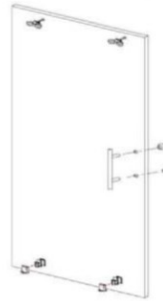

Fig 5
9. Fasten the ST4x10 screws (12) of the glass profiles (13).
10. Install the handle (15), tandem rollers (8) and bottom sliders (18) to the sliding door (7), as shown in figure 5.